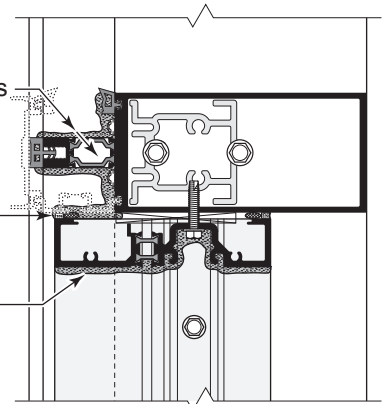

Fig. 57.3
- o Prior to installing the subframe, lay down a bed of sealant where the threshold will be installed. See **Fig. 57.2** and **Fig. 57.3**.
- o Seal the top of the jamb subframe as shown in **Fig. 57.3**.